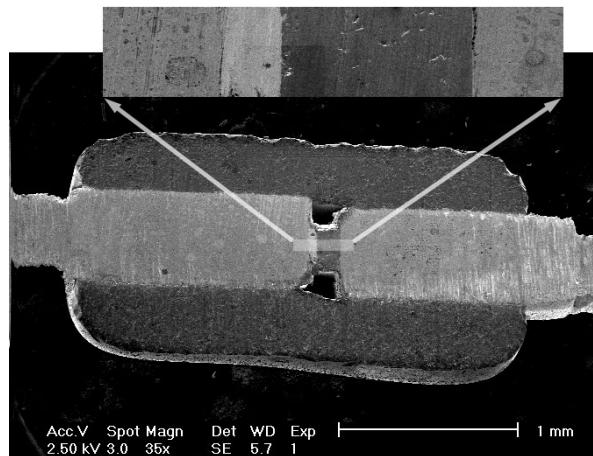

Figure 7 Cross sectional scanning electron microscopy image of BAT85 SBD
- Give a range of metals that would make a Schottky contact with n-type Si and illustrate why. Outline a reasonable choice of materials for the BAT85 SBD cross section below (Fig. 7). How would you make sure a Schottky contact is formed on one side and an Ohmic contact at the other side of the Si.
- Schottky barrier height.* Discuss deviations from the ideal model, which assumes the barrier to be the difference between the work function for the metal and the electron affinity of the semiconductor. Draw band diagrams including surface states. Discuss techniques to confirm that the barrier height is 0.5 eV as assumed for the SBD. Starting with the BAT85 SBD cross section above (Fig. 7), discuss materials choices and fabrication of Schottky contacts in current IC technology.